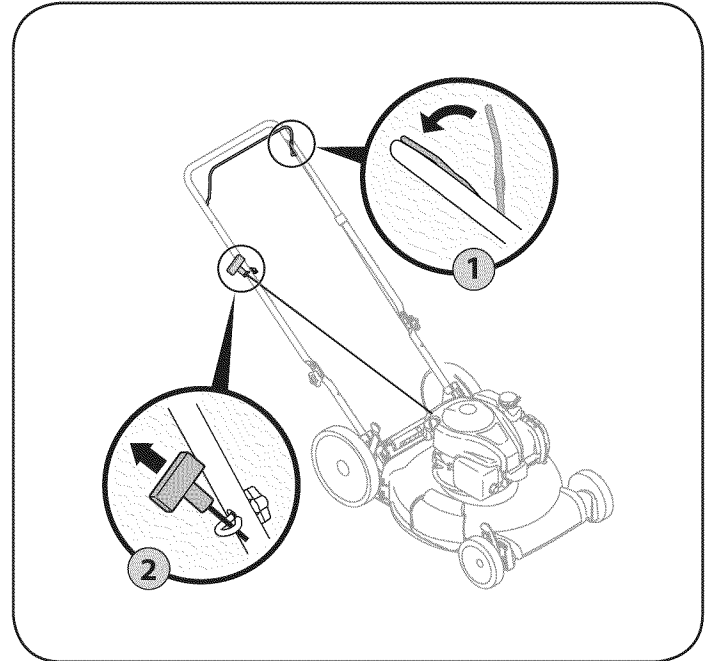

Figure 11
2. Holding these two handles together firmly, grasp recoil starter handle and pull rope slowly until resistance is felt, then pull with a rapid, continuous, full arm stroke. See Figure 11. Keeping a firm grip on the starter cord handle, let the rope rewind slowly. Repeat until engine cranks. Let the rope rewind each time slowly.